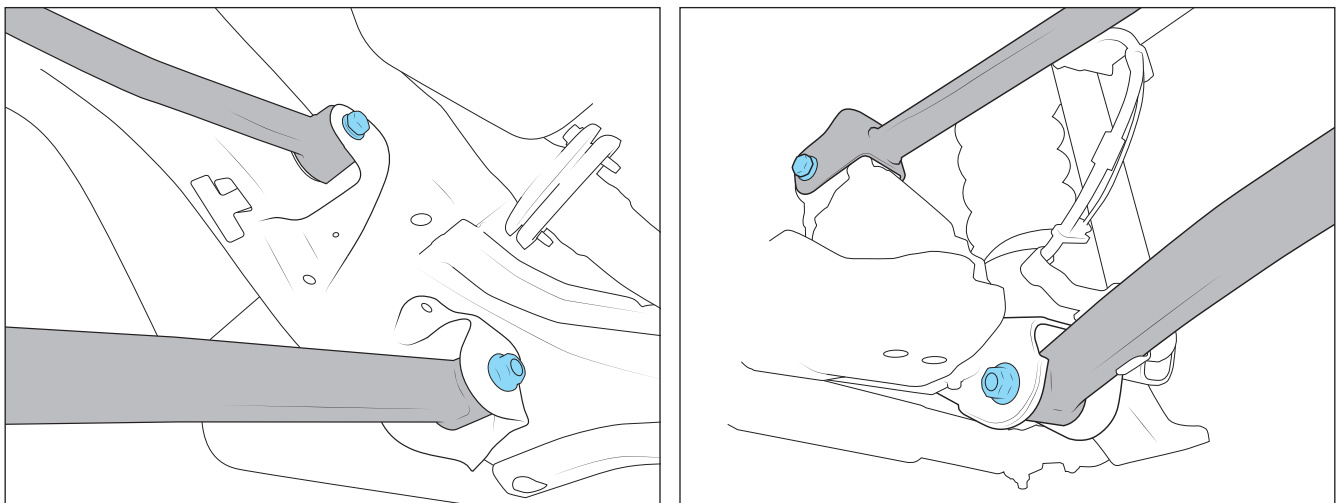

Figure 8
3. Loosen but DO NOT REMOVE all 8 control arm bolts (fig. 8).